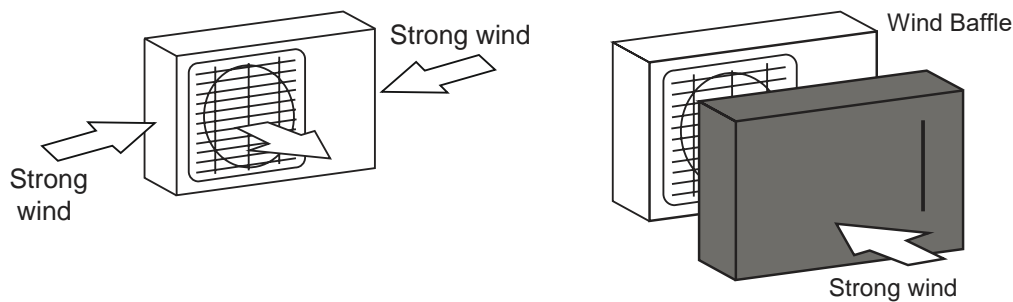

Figure 9.
- For installations prone or exposed to strong prevailing winds or breezes such as coastal areas, please ensure that the unit is sited appropriately, by placing it lengthwise along the wall to reduce any negative impact on the condenser fans. Refer to "Figure 9." on page 49.
Install unit so that air outlet fan is at a 90° angle to the direction of the wind. If needed, build a barrier in front of the unit to protect it from extremely heavy winds. Refer to Figure 9 below.